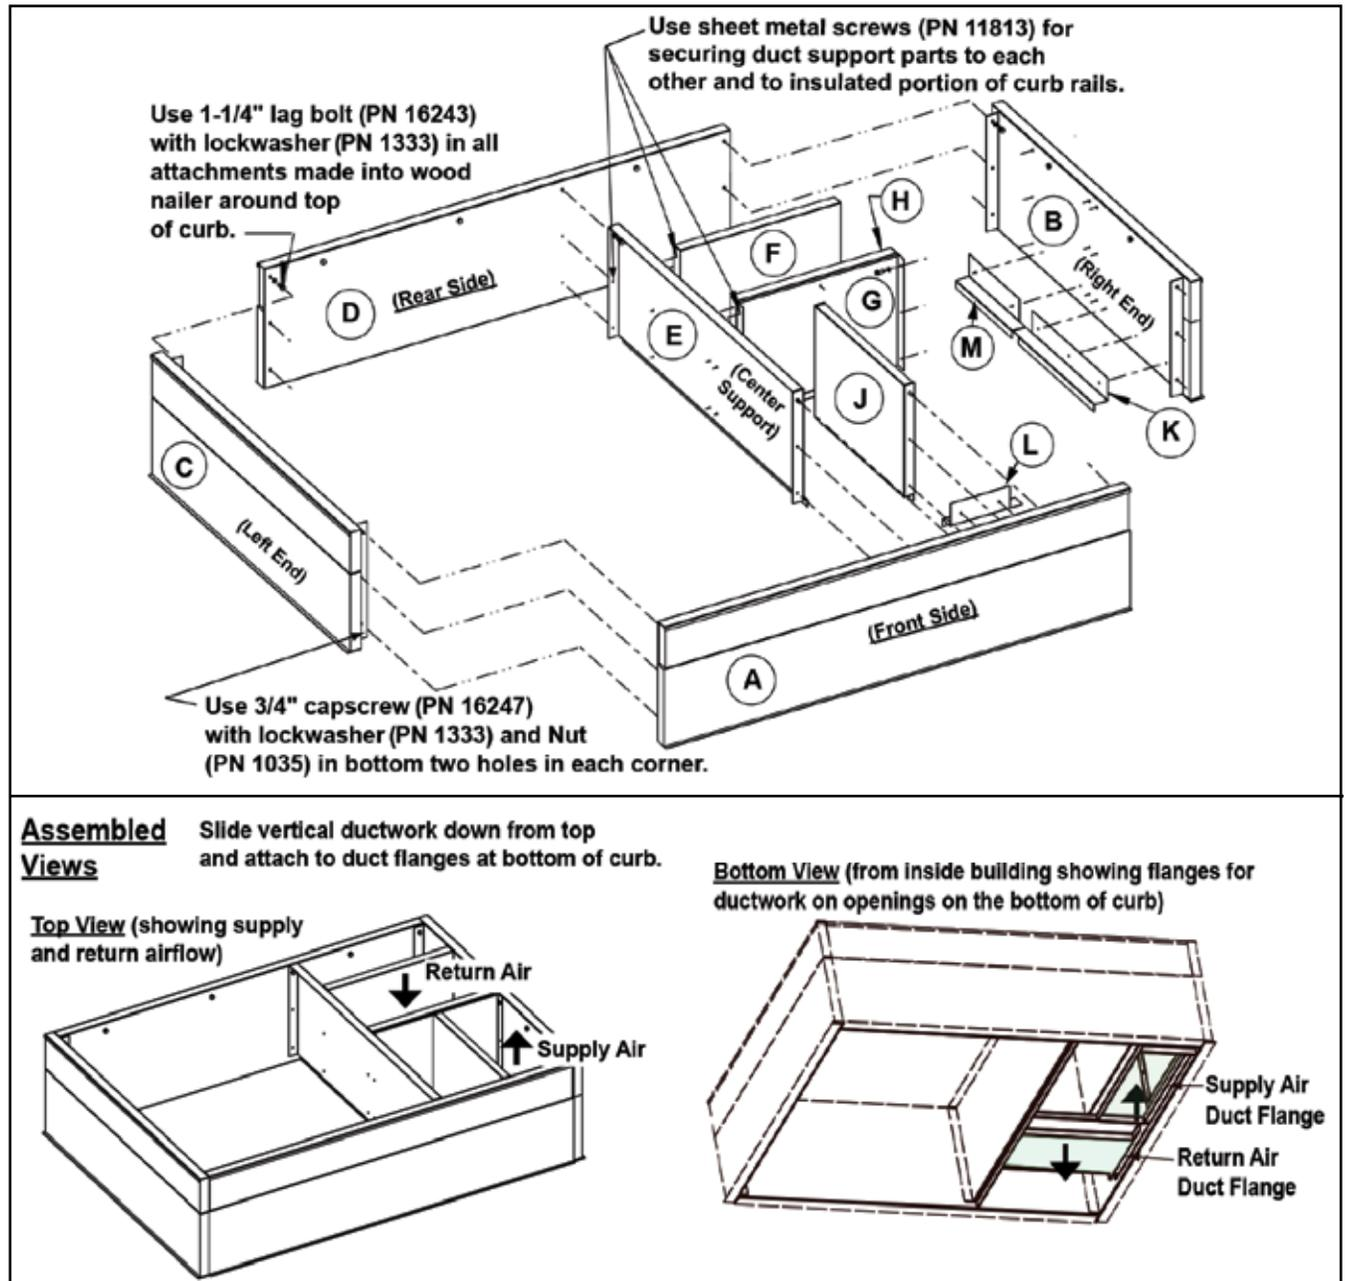

Figure 6. Roof Curb Assembly
- The roof curb (option CJ3C, refer to Table 4) is shipped separately for field-installation. The roof curb designed for this system includes integral duct connections for supply air and return air, making it very important to know the orientation of the unit when installing the curb (see Figure 6).
| Item (See Figure 6) | Component | PN | Quantity |
3. Position roof curb end and side assemblies as shown in Figure 6. Fasten each corner using lag bolts with lockwashers in top holes and capscrews with lockwashers and nuts in each other hole.
6. Position duct support parts as shown in Figure 6. Secure duct supports to top portion of curb rail with wood nailer using lag bolts with lockwashers. Use sheet metal screws in all other locations.